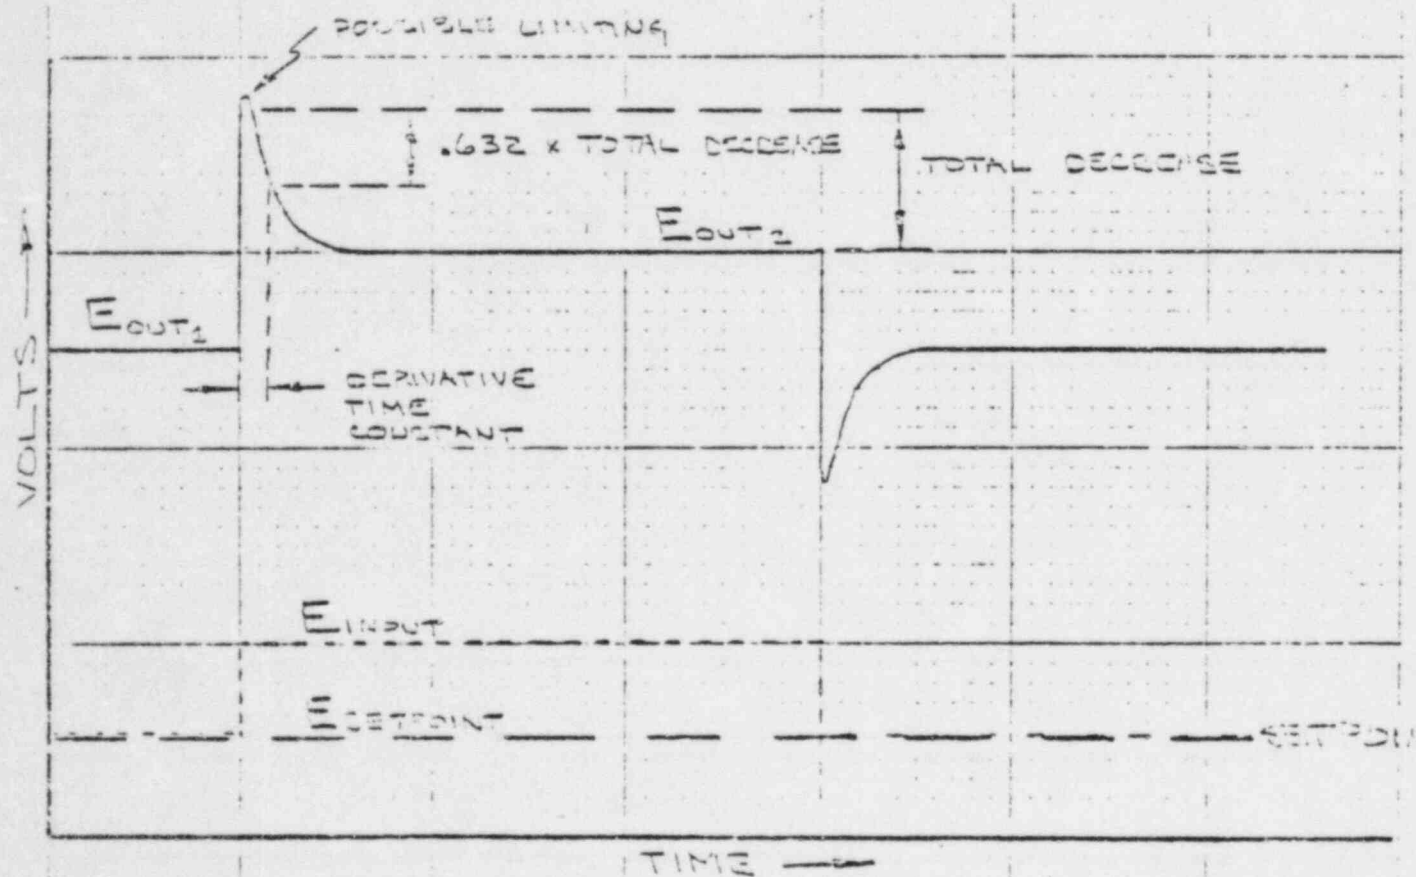

FIGURE 2. DERIVATIVE TIME CONSTANT
- 7.7.23 Determine and record the AS FOUND derivative time constant from the recorder trace by measuring the time for the output trace to decrease from a convenient initial point (after any limiting or clipping) to 63.2% of its total decrease (see figure 2).